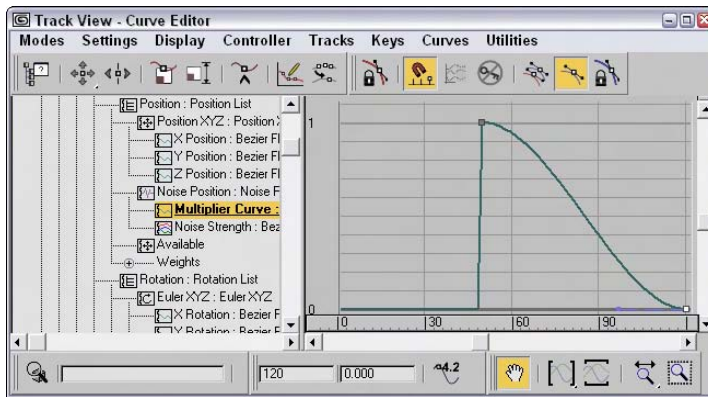

Figure 33-19: The Multiplier curve keeps the Noise track in check.
- Select the Noise Position track, and choose Curves ⇄ Apply-Multiplier Curve. Select the Multiplier curve track. Assign the first key a value of **0**. Change its Out tangent to Stepped so it holds its value until the next key. Click the Add Keys button, and add a key at frame 50 with a value of **1**. Move the last key to frame 120, and set a value of **0**. The Multiplier curve should now look like the curve in Figure 33-19. Select the Noise Position track.